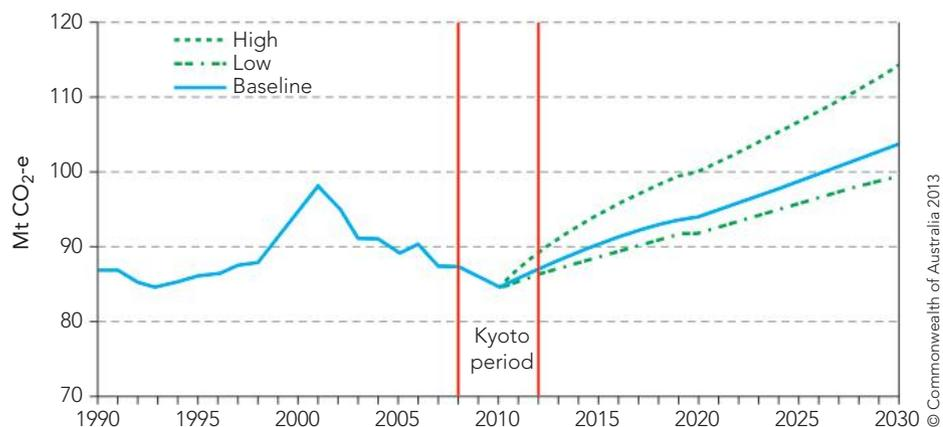

Figure 1.16 Baseline agriculture emissions, 1990–2030
- Australian primary industries have continued to reduce greenhouse gas emissions; however, drought has been a major factor in reducing crop and stock levels (Fig. 1.16). Emissions have reduced but are projected to increase into the future.